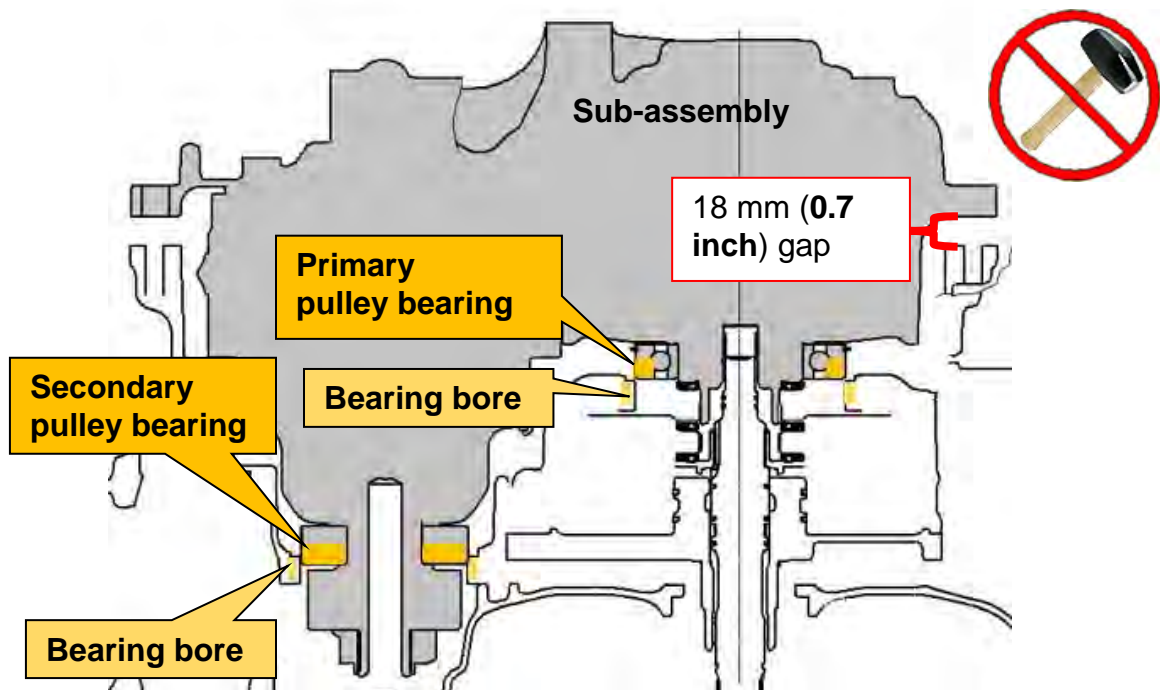

Figure 29E
- If the primary and the secondary pulley bearings do not align properly with their bores (Figure 29E) or are at an angle, a **gap of 18 mm (0.7 inch)** may be present.
- Possible areas of interference are highlighted with orange and tan in Figure 29E.